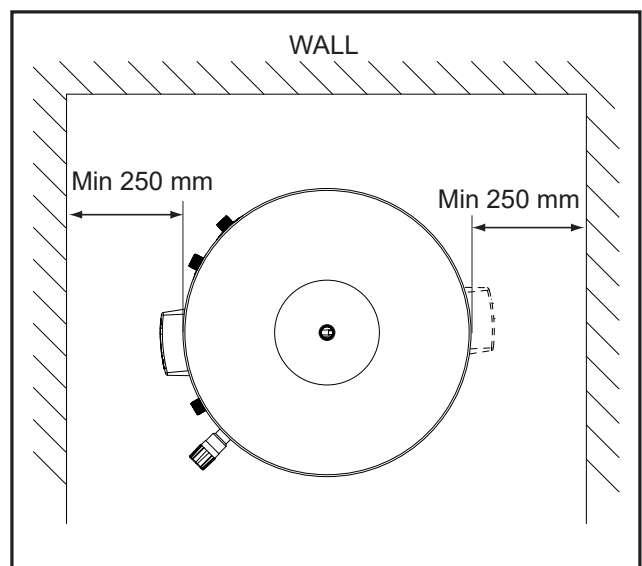

Fig. 1: Siting the Unit
- Access to associated controls and immersion heaters must be available for the servicing and maintenance of the system. Where these controls are installed against a wall a minimum distance of 250 mm must be left (see Fig. 1, below).